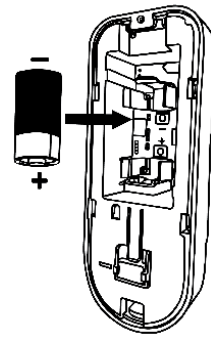

Figure 7
Step 4: Inserting Battery (see Figure 7)